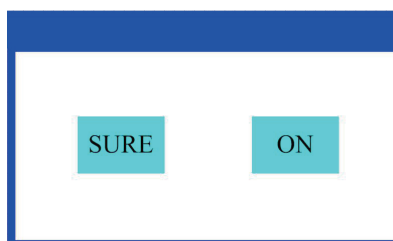

Figure 5 Dialog of confirm
- When the parameter is a key item, click corresponding item, a dialog shown in Figure 5 will pop up asking for confirmation. Click ‘sure’ to confirm.